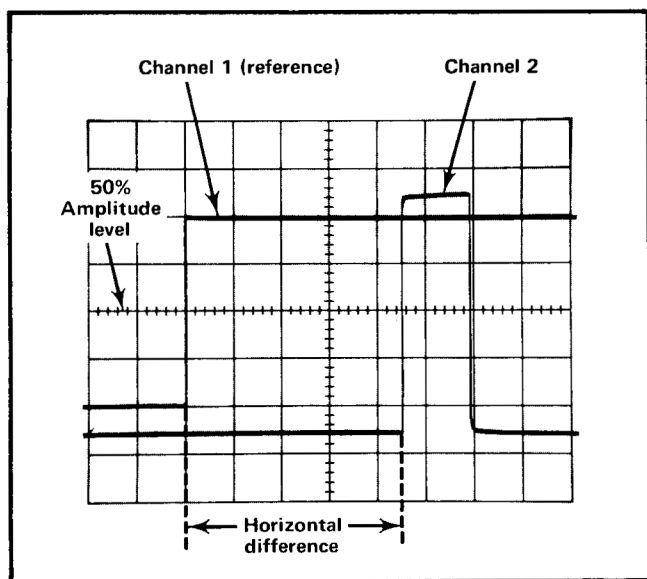

Fig. 2-21. Measuring time difference between two pulses.
11. Measure the horizontal difference between the Channel 1 waveform and the Channel 2 waveform (see Fig. 2-21).
Example. Assume that the TIME/DIV switch is set to 50 μ s, the MAG switch to X10, and the horizontal difference between waveforms is 4.5 divisions (see Fig. 2-21).